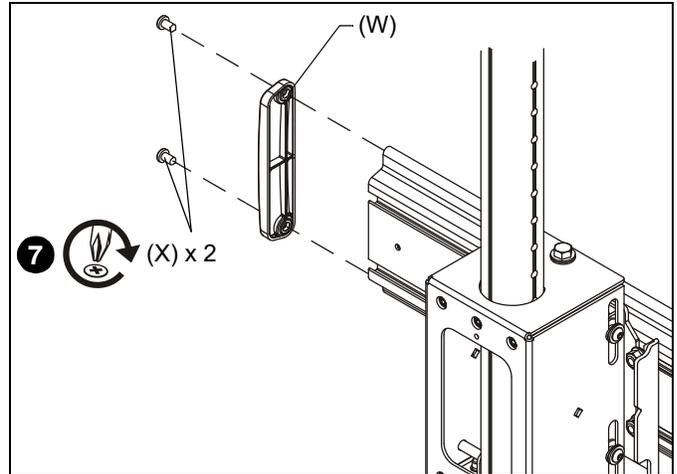

Figure 14
- Repeat for remaining array head (FF).
- Add one end cap (W) to each end of mounting rail, and fasten in place using two 1/4-20 x 1/2" Phillips self-tapping screws (X) for each end cap. (See Figure 14)